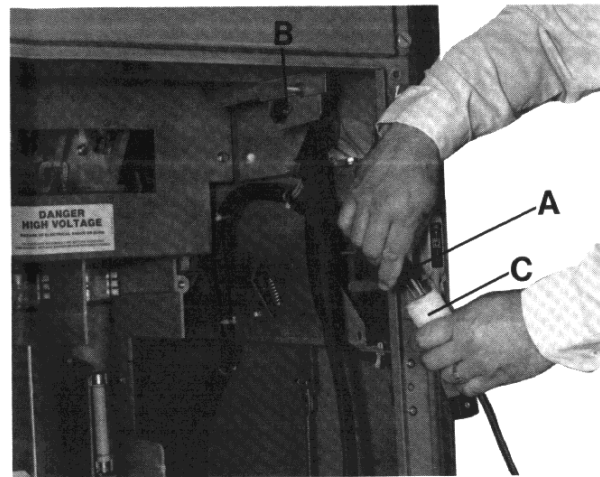

FIGURE 17
2. Access to the test cord can be gained by opening the medium voltage controller door. Unplug the test cord (A) from receptacle (B) located in front right corner of medium voltage contactor compartment (See Figure 17).
3. Plug test cord into a grounded (3-wire) extension cord (C) (See Figure 17).
The controller test cord (A) (See Figure 17) must be used when testing the contactor and control circuit from an external 120 Volt ac power source. This disconnects the